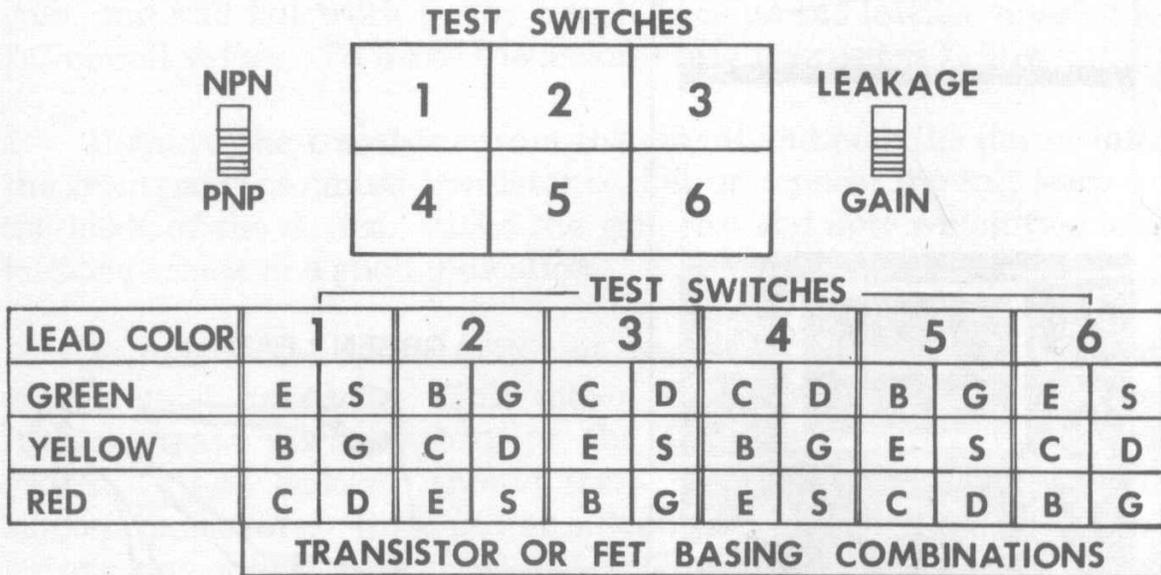

Fig. 4 Transistor Basing Combinations
2. Refer to the table in Fig. 4 to determine the base lead, and connect a 10K resistor in series with it.
4. Refer to the table in Fig. 4 to determine the basing of the transistor.